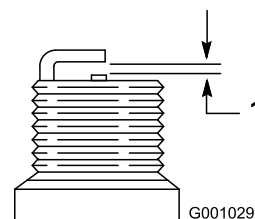

Figure 58
4. Set the gap between the electrodes on a new spark plug at 0.030 inch (0.76 mm) (Figure 58).